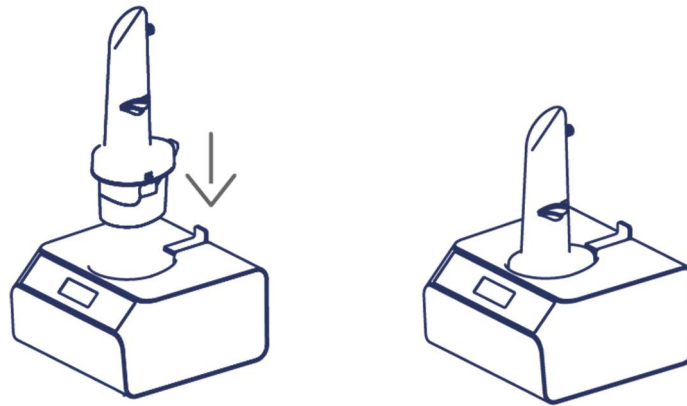

Figure 12 – Installing Mist Assembly into Base
6. Being careful not to drop or spill the Mist Assembly, orient it so that it fits into the recess in the Base, slide the Base Latch out, install the Mist Assembly into Base, release the Base Latch, and press down until the Base latch snaps closed. Make sure the Mist Assembly is fully seated and the Base Latch is fully latched (Figure 12).